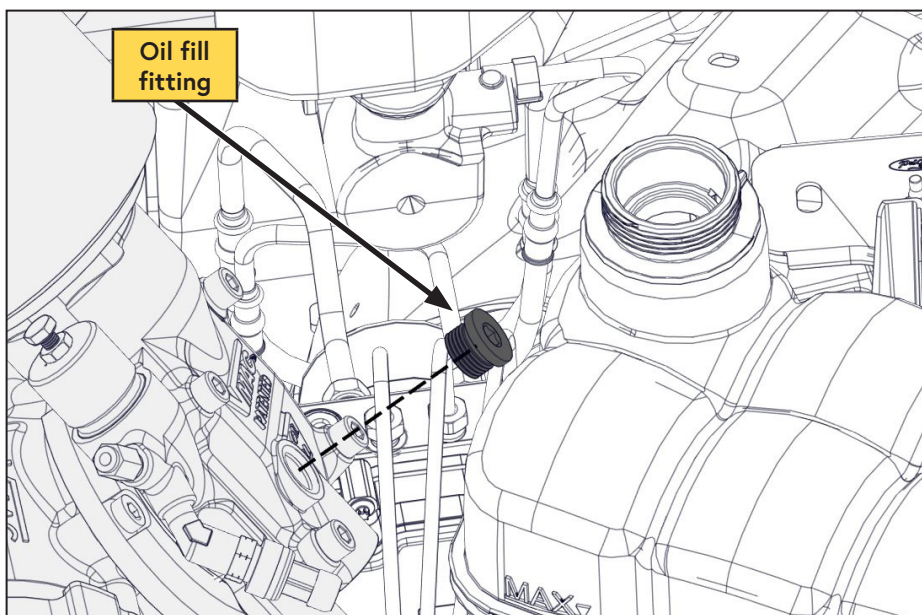

Figure 41 — Oil fill location
- ☐ Remove the fitting from the inlet (mounted on the top of the compressor) (Figure 41).